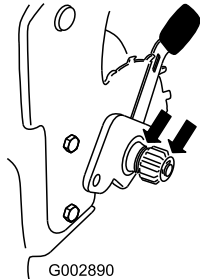

Figure 42
2. Apply a lubricating oil to the inner and outer sides of the gear as shown (Figure 42).